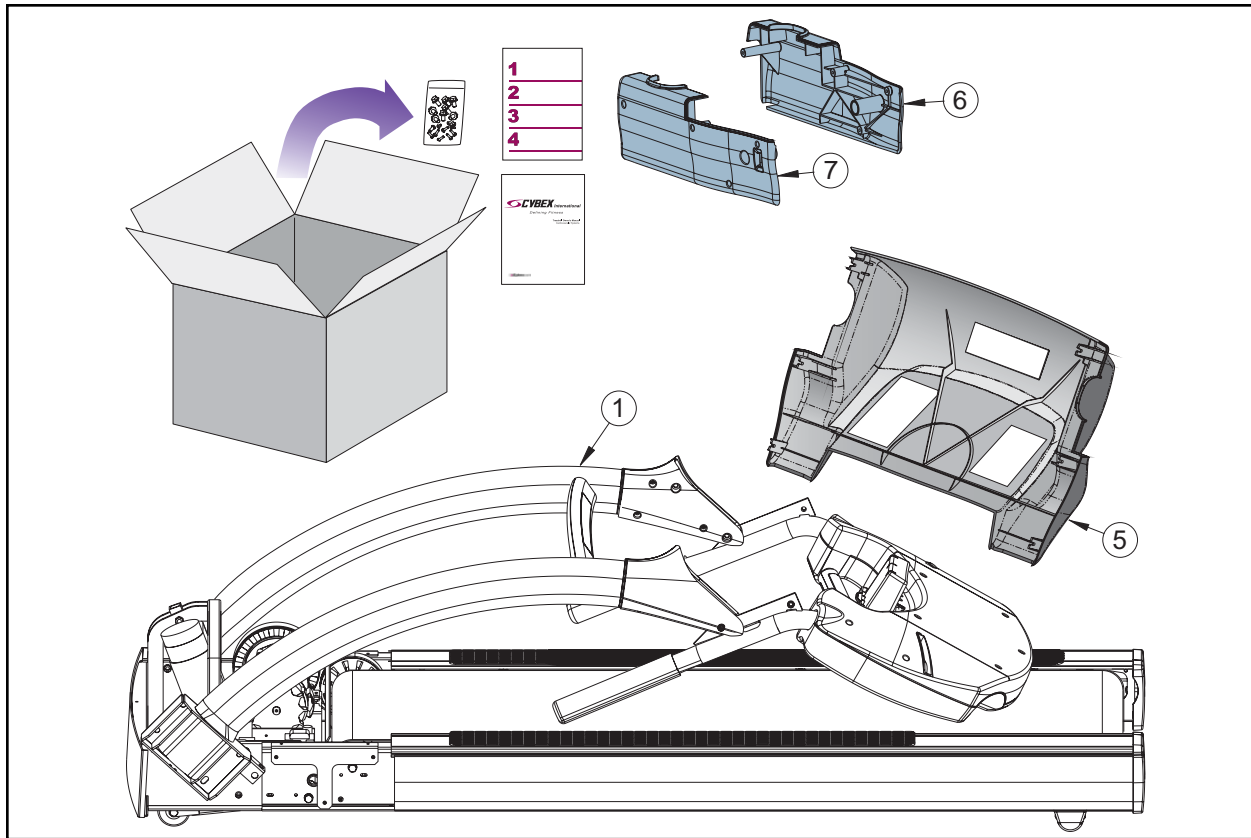

Figure 1
- B.** Check to be sure that the following items are present. Check off (✓) each item as you find it. See Figure 1. If any of the parts are missing contact Cybex Customer Service.